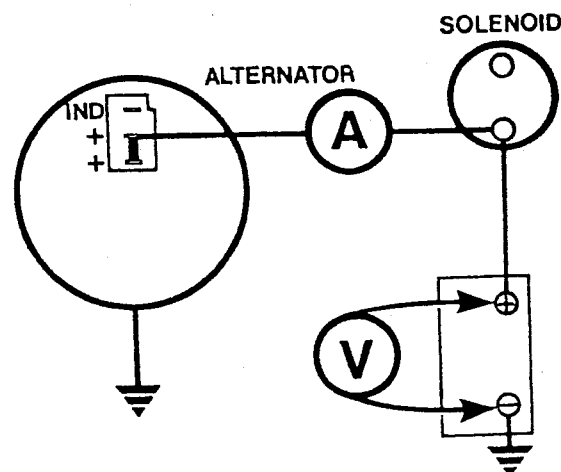

Fig. 81 Checking voltage regulator setting
- Connect an ammeter between the starter solenoid terminal and the alternator main output cable. Connect a voltmeter across the battery terminals. Fig. 81.